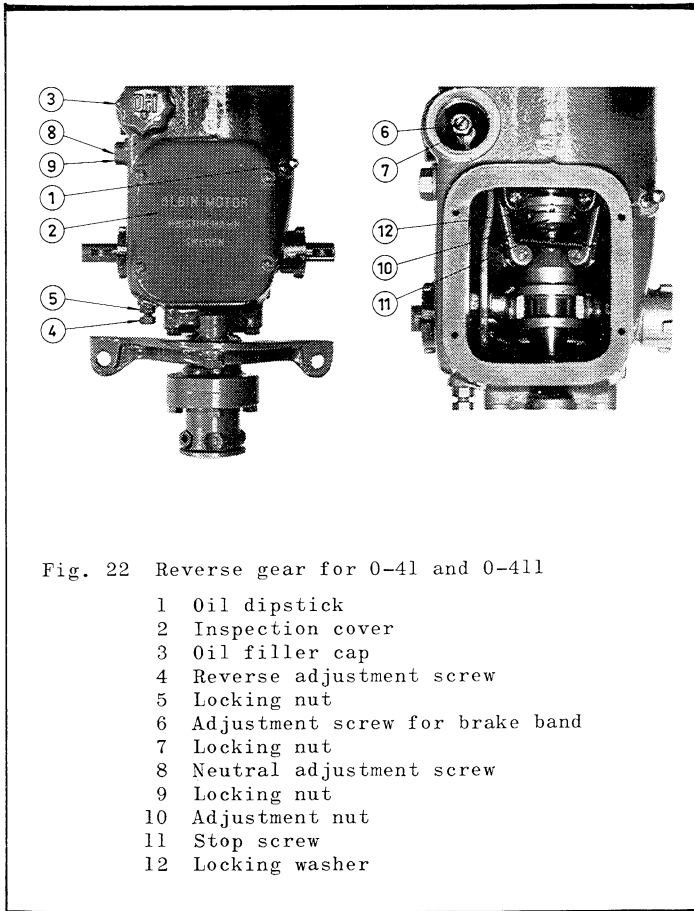

Fig. 22 Reverse gear for 0-41 and 0-411
- 1 Slacken the locking nut 5, fig. 22 (see next page).
- 1 Slacken the locking nut 9, fig. 22.
If slipping occurs when running astern, this can be eliminated by adjusting screw 6, fig. 22, after removal of oil filler cap.
- 2 Slacken the stop screw 11, fig. 22, until it is clear of the groove in the locking washer 12.